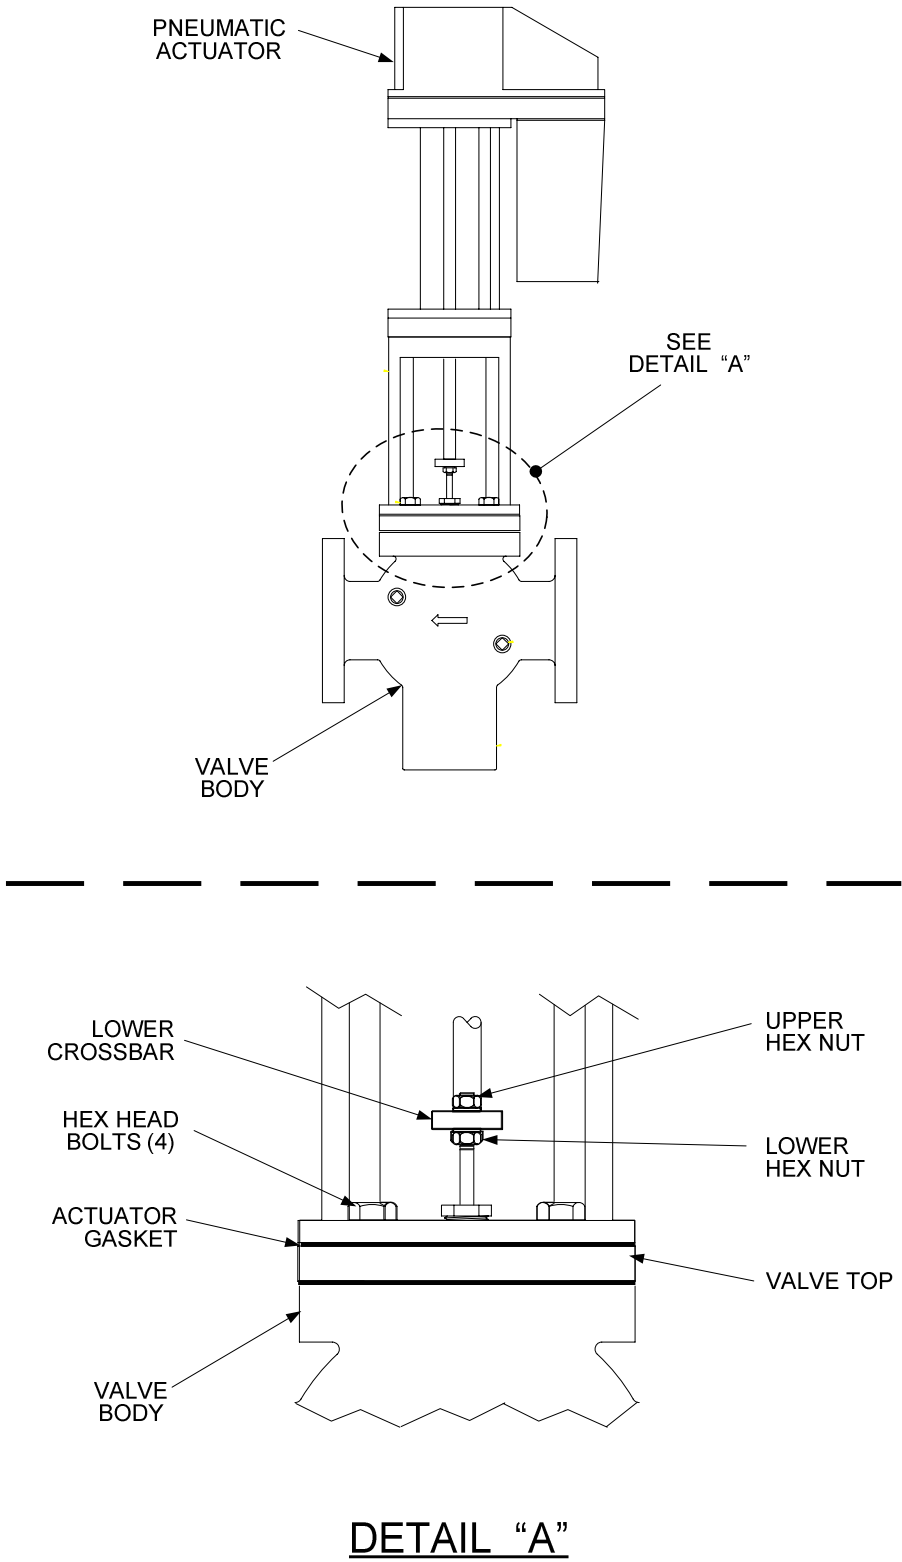

Figure 2-5. Electro-Hydraulic Control Valve Actuator Removal
Refer to Figure 2-5 and remove the Control Valve Actuator as follows:
2. Loosen the Upper Hex Nut above the Lower Crossbar shown in Figure 2-5.